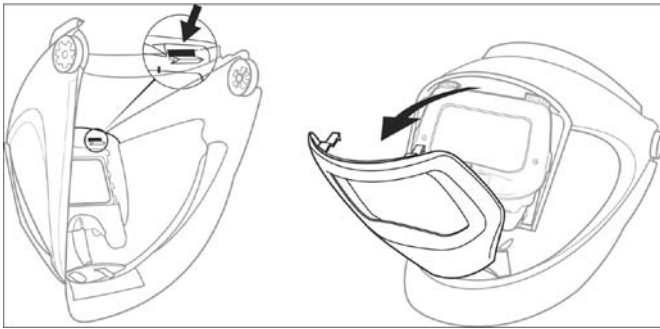

Fig. 19b: Removing the Front Silver Panel – press up then out on the tab in which the arrow is pointing
- Remove the silver front panel by pressing up on the silver tabs from the inside of the shield to release the latch mechanism, and then push the tab through the opening (Fig. 19b).